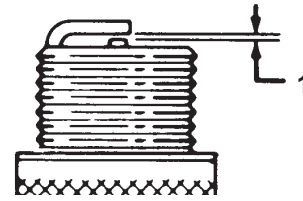

Figure 29
- Set the gap between the electrodes on the spark plug at 0.030 in. (0.76 mm) as shown in Figure 29.